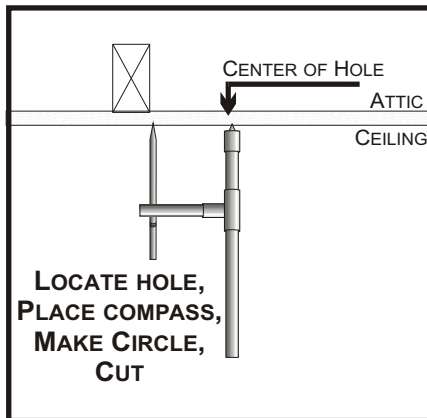
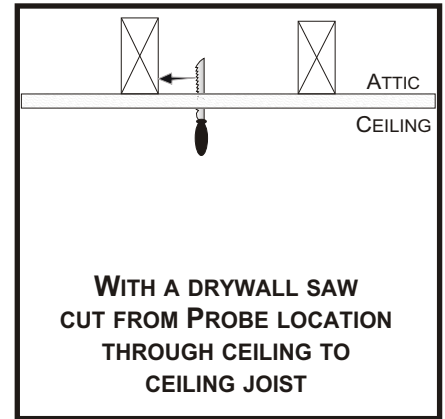

Figure 3
Figure 2
4. Locate the ceiling joist. The side of the pipe will attach to this ceiling joist. With a drywall saw cut through the ceiling to the ceiling joist (**Fig. 2**). Insert a pencil in the enclosed PVC compass. Use the enclosed compass to locate the center of the hole for the pipe (**Fig 3**). Using the compass keep the center of the compass straight up and down) draw an 8 inch or 13 inch circle on the ceiling. (Depending on the kit you have). If the ceiling is vaulted the compass slides up and down on the center pipe creating an elliptical circle.